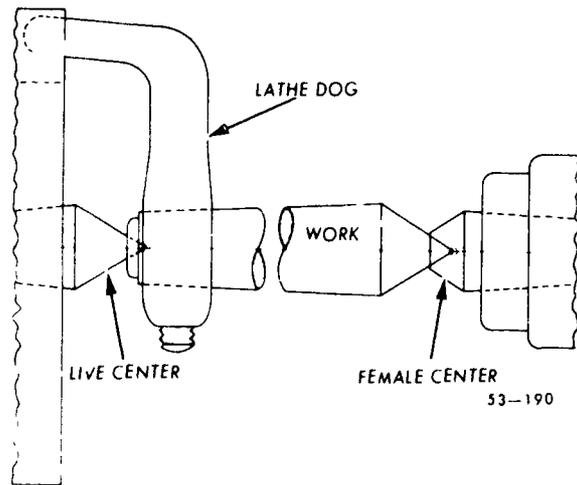

Figure 55. Use of female centers.
b. *Female centers* have a 60° conical center hole in the tip. They are inserted in the headstock or tailstock spindle, and they support work that has pointed ends, as shown in figure 55.